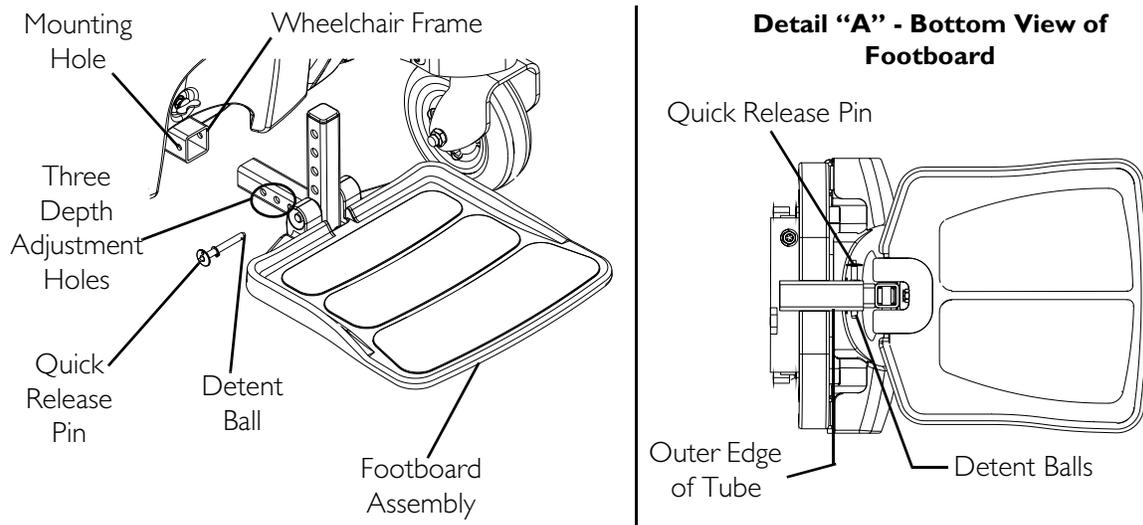

FIGURE 8.3 Adjusting the Footboard Assembly - Depth
2. Install the quick release pin by depressing the button while sliding the pin in. Make sure the detent balls are fully released beyond the outer edge of the tube (Detail "A" of FIGURE 8.3).
NOTE: For this procedure, refer to FIGURE 8.3.
3. Install the quick release pin. Make sure the detent balls are fully released beyond the outer edge of the tube (Detail "A" of FIGURE 8.3).